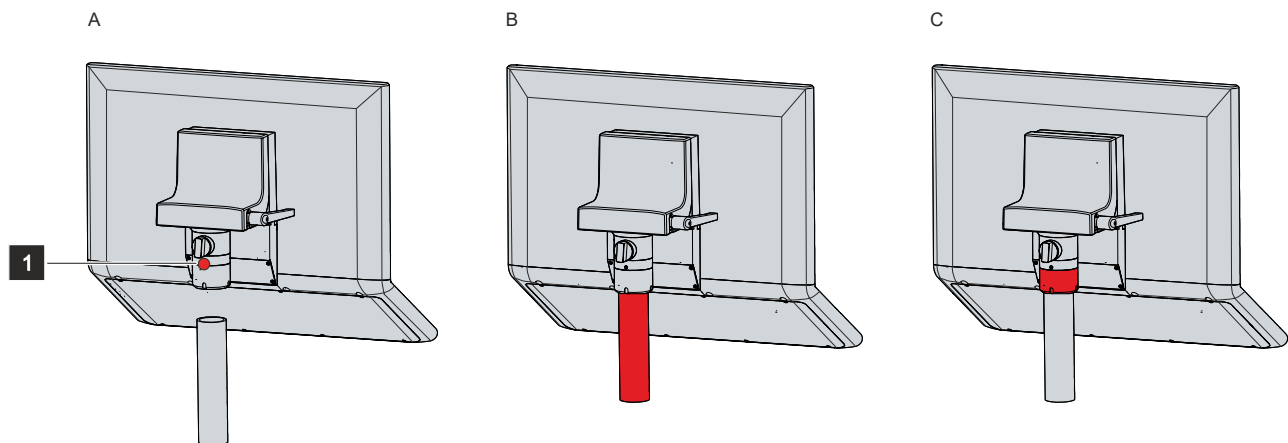

Fig. 28: Mounting arm tube installation
3. Route the signal and power supply cable inside the mounting arm adapter as shown in Figure 28.